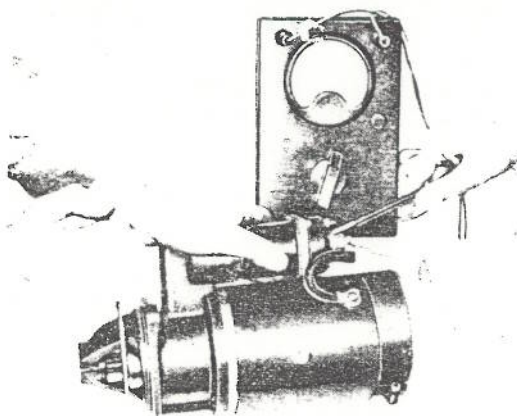

Fig. 10-114
e) Retract the pinion until it comes in contact with the pinion stopper and check to see if conduction takes place between the terminals B and M on the engage. (See Fig. 10-114)